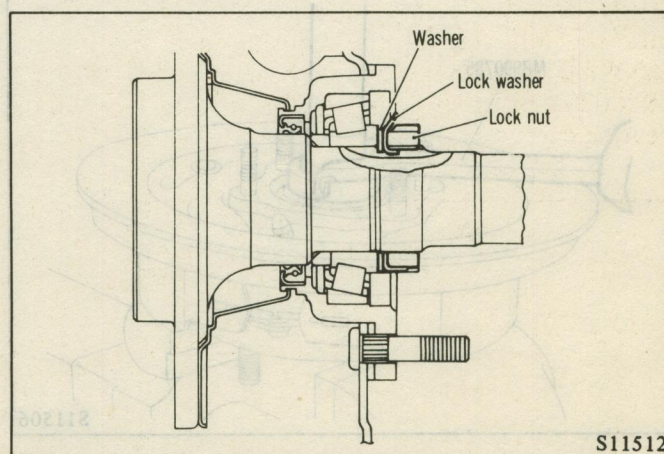

Fig. 11 Installing the Washer, Lock Washer and Lock Nut
(3) Apply sufficient amount of grease on bearing rollers.
(4) Install washer, lock washer, and lock nut in that order as shown in Fig. 11. Tighten lock nut to the specified torque using special tool (MB990785).